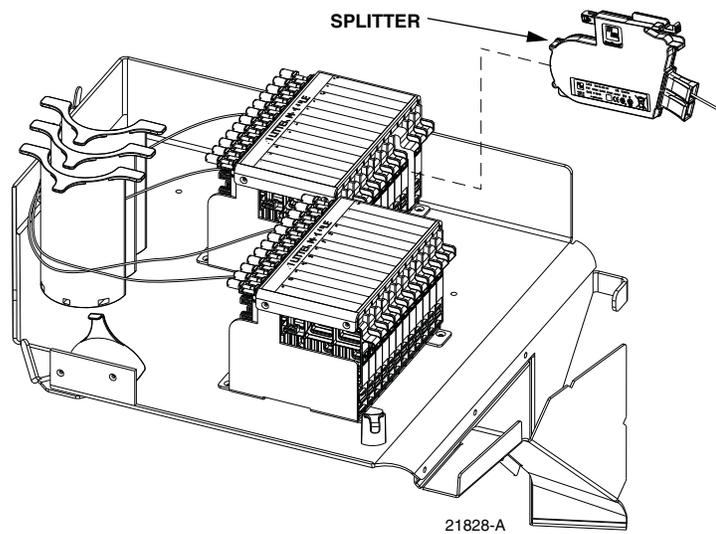

Figure 20. Splitter Installation
7. Insert the splitter into the mounting slot as shown in Figure 20.